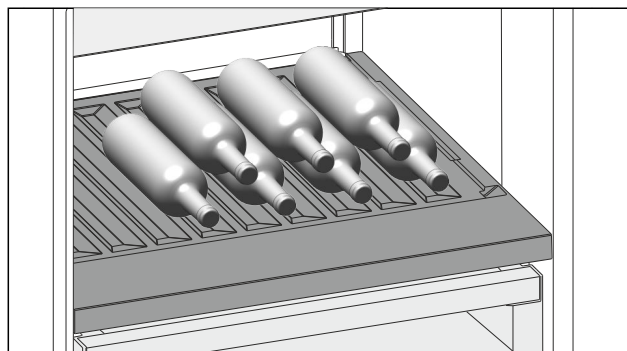

Fig. 140
- Place bottles in the back row with their bases against the back wall. (see Fig. 140)